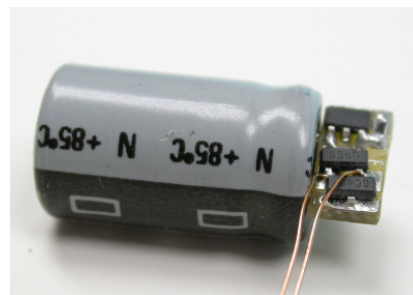

figure 1: The component for jitter-free backlights
2. The product can be seen in figure 1. These instructions are part of the product. Please retain them well.